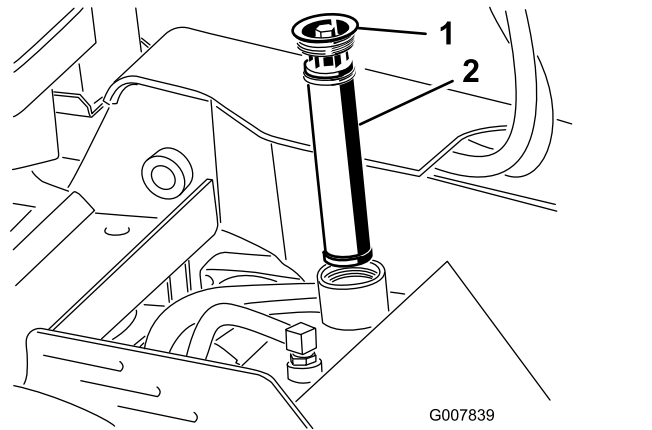

Figure 58
4. Remove and discard the old filter (Figure 58).
5. Install the replacement hydraulic filter and filler cap (Figure 58) and torque the bolt on top to 13 to 15.5 N·m (110 to 140 in-lb).
5. Remove the hydraulic-tank filler cap and filter (Figure 58).
10. Install the hydraulic filter and filler cap (Figure 58) and torque the bolt on top to 13 to 15.5 N·m (110 to 140 in-lb).